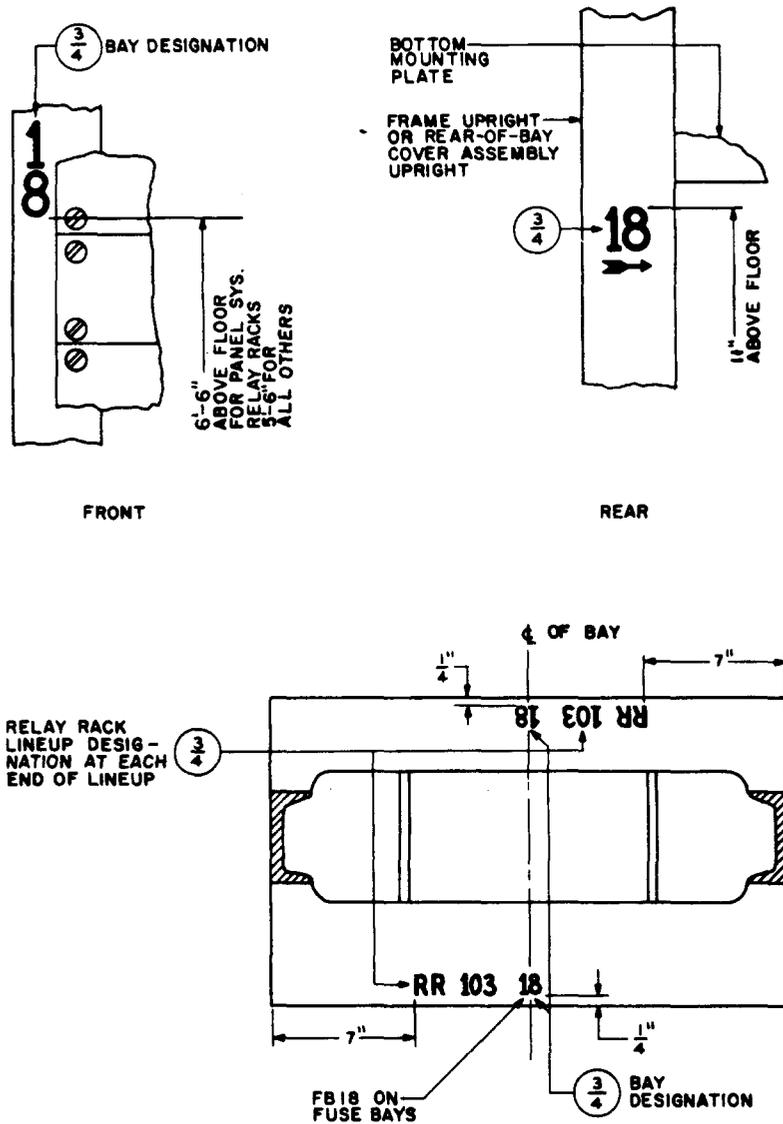

Fig. 35 - Bay and Relay Rack Line-up Designations for Channel-type Relay Rack Bays
2.55 The bay designation on bays with a sheet metal base shall be centered on the top surface of the frame base, front and rear, as shown in Fig. 35.
2.56 When relay rack line-up numbers (RR 103) are used, stamp in line with the bay designation at each end of each relay rack line-up on both front and rear, as shown in Fig. 35
2.57 The bay designations on bays with angle-type guardrails or without guardrails shall be stamped on the front face of the left upright. This rule also applies when a fuse panel is mounted at the designating height. On the rear, the bay designation shall be stamped on the face of the left upright (facing the rear), except as in (b) below. (See Fig. 35.)
and on the rear, stamp on the left upright (facing the rear) with top of characters 11 inches above the floor, as shown in Fig. 35.
2.60 *On bays with angle-type guardrails*, the bay designation shall be stamped on the face of the bulb of the left upright approximately 5 feet 6 inches above the floor. On the rear, it shall be stamped on the face of the left upright (facing the rear) approximately 11 inches above the floor, as shown for channel-type bays in Fig. 35.